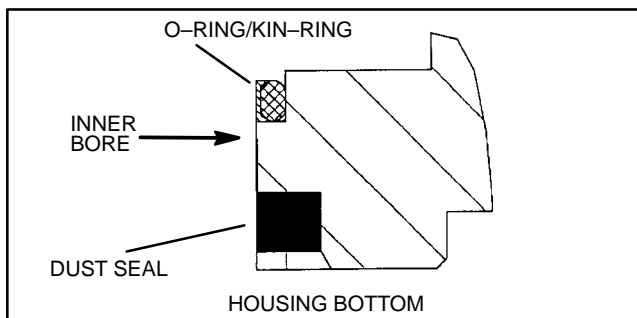

Figure 79
7. Coat new O-ring/kin-ring lightly with petroleum jelly. Install ring carefully into the inner bore of the housing so that they fit snugly in place (Fig. 79 and 80).